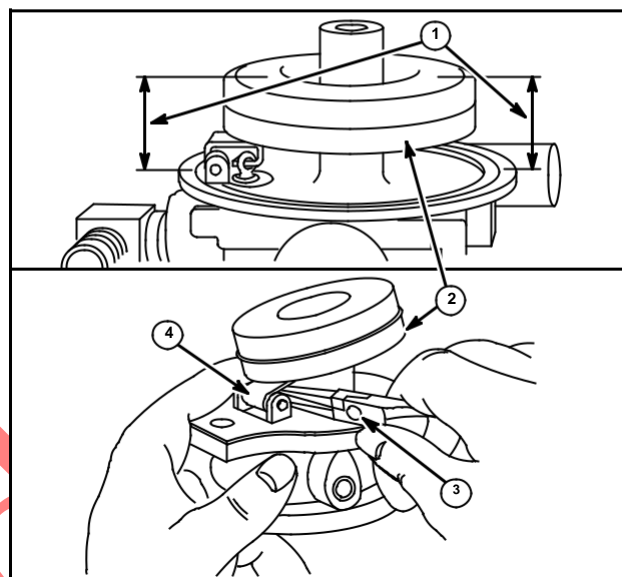

Fig. 142
1. With body gasket in place on upper body and inlet needle and float installed, float (2) should be parallel to body mounting surface as shown in (1), Fig. 142.
2. If not, bend tang on float (4) with needle nose pliers (3) until surfaces are parallel. DO NOT PRESS ON FLOAT.